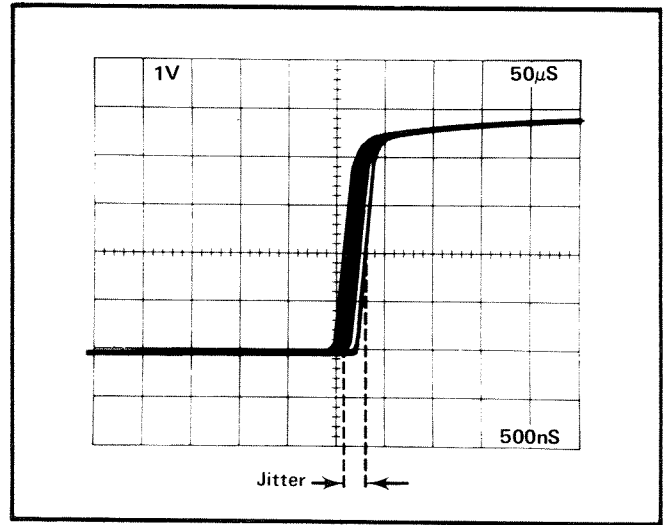

Fig. 2-16. Measuring pulse jitter.
**Example.** Assume that the horizontal movement is 0.5 division (see Fig. 2-16) and the DLY'D Time/Division switch is .5 microsecond.